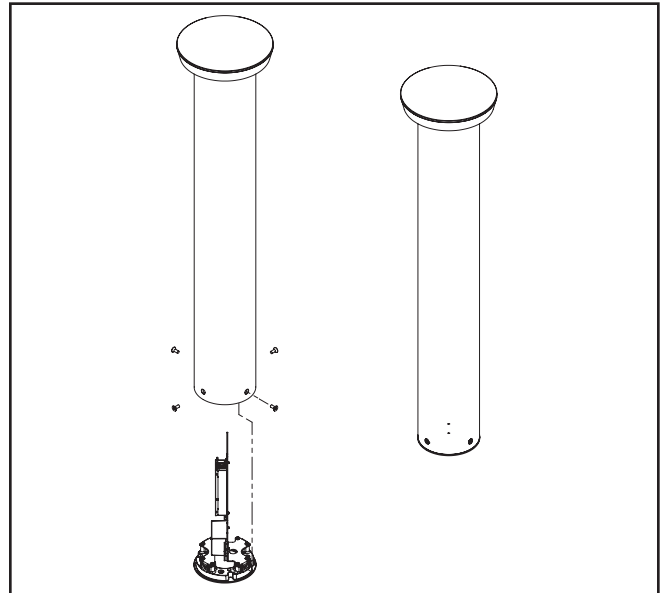

Figure 4.
12. Use the four (4) ¼" socket cap flat head screws to fasten the bollard housing to the base. Tighten to 30 in.-lbs. (3.4 N-M). (Figure 4)